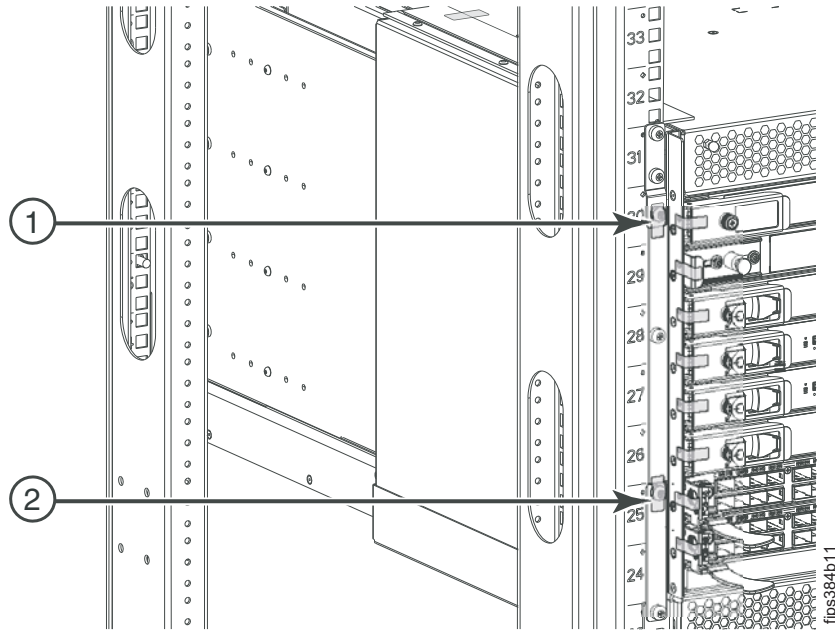
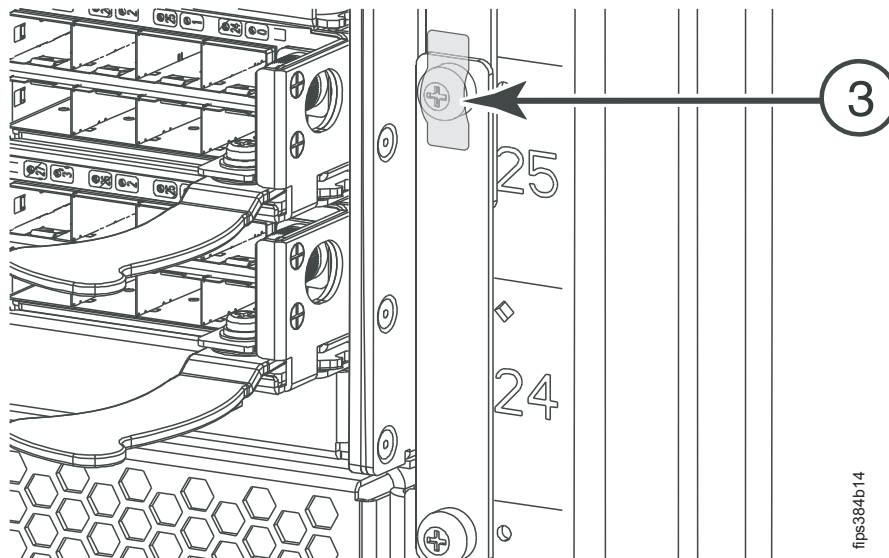

Figure 17. Upper and lower 2499-192 rackmount FIPS seals on the left rack rail (left port view)
Figure 20. Lower right 2499-192 FIPS seal application (detailed port side view)
6. Apply one seal mounted vertically to the upper left FIPS bracket, ( **1** in Figure 17 on page 19). Ensure that the seal is firmly affixed.
7. Apply one seal mounted vertically to the top screw attaching the lower left FIPS bracket, (**2** in Figure 17). Ensure that the seal is firmly affixed. (You can also refer to Figure 20 on page 20. for a more detailed mirror image of the similar lower right FIPS seal.)
10. Apply one seal mounted vertically to the lower right FIPS bracket, as shown in Figure 20. Ensure that the seal is firmly affixed.